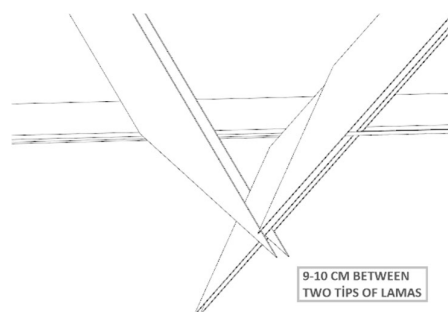

Figure 47: Chain tensioner sprocket
- Chain tensioner sprocket is separated from chain lock by unscrewing (Figure 47).